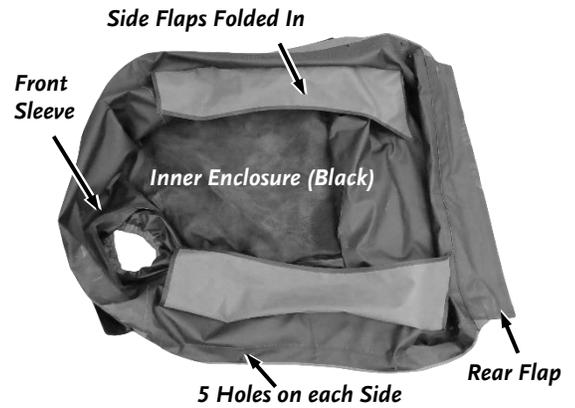

Figure 27
1. Lay out the Enclosure onto a clean flat surface so the inside (black) is facing up (**Figure 27**). Take note of the Sleeve location at the front of the Enclosure.
2. Fold the side flaps so you can see the 5 holes in each of the side pockets. Take note of the front pocket. It also has holes, but they are facing down and are not visible (**Figure 27**).